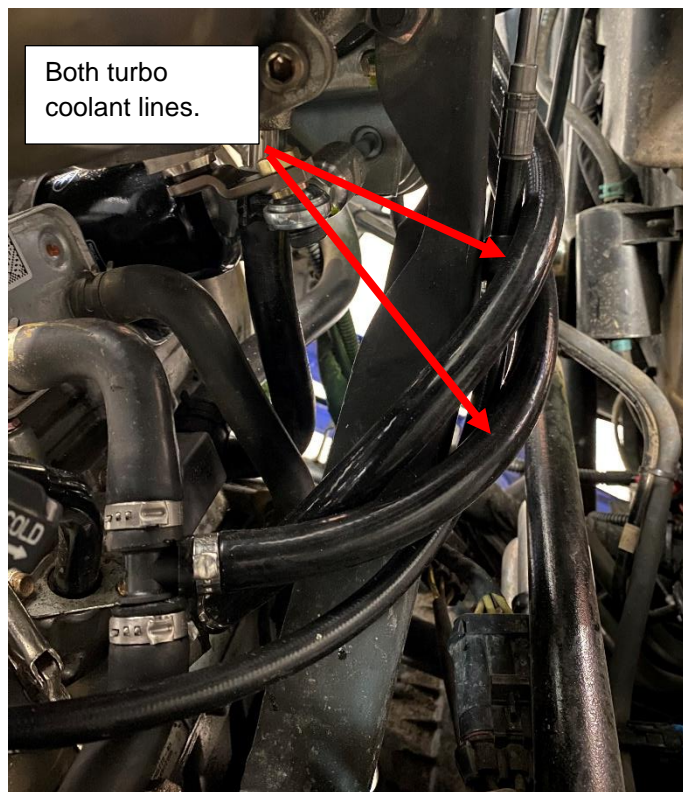

Figure 2
- Step 18:** Install the (2) supplied "T" fittings into the coolant hoses. The 3/8" fittings will slide into the OEM coolant hoses, clamp with (2) 22mm pinch clamps per hose. (Figure 2).